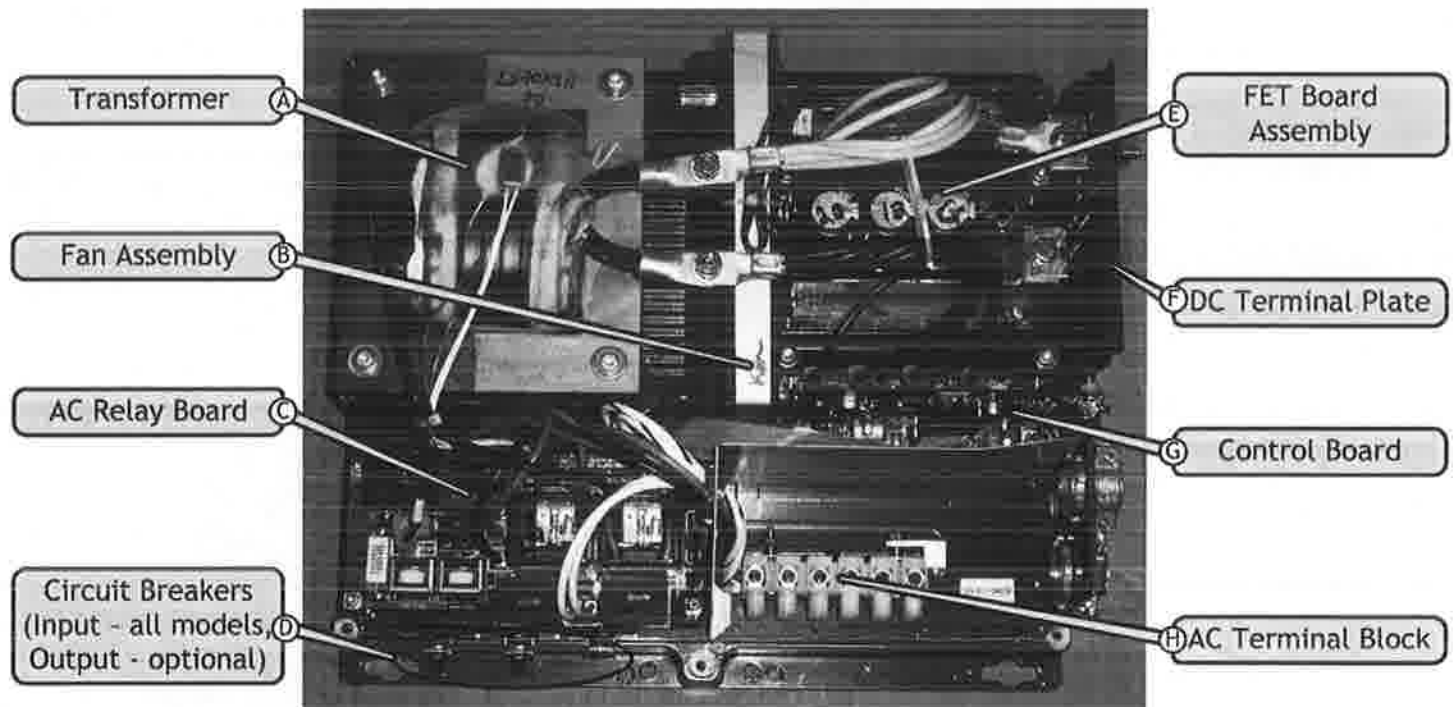

Figure 2, ME or RD Series Inverters - Internal Components
3.1.2 After removing the seven Torx screws, remove the top cover by lifting it straight-up out of the DC terminal plate (figures 2 and 3, item F).